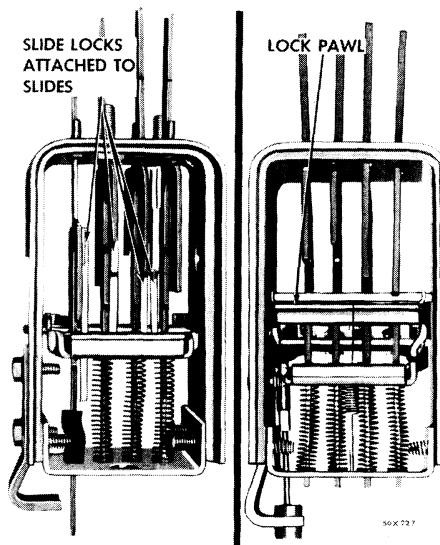

Fig. 17—Gearshift Control Unit (Interior View). Early Design—Right View; Late Design—Left View
a. Operation (Early Design Units) (Fig. 17)
b. Operation (Late Design Units) (Fig. 17)